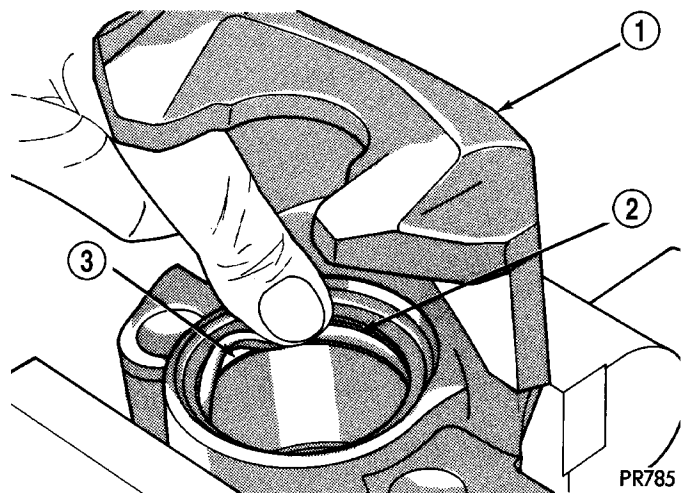

Fig. 54 Installing New Piston Seal
(1) Dip the new piston seal in clean brake fluid and install it in the groove of the caliper bore. The seal should be started at one area of the groove and gently worked around and into the groove (Fig. 54) using only your clean fingers to seat it.
(2) Coat the new piston boot with clean brake fluid leaving a generous amount inside the boot.
(3) Position the dust boot over the piston after coating it with brake fluid.